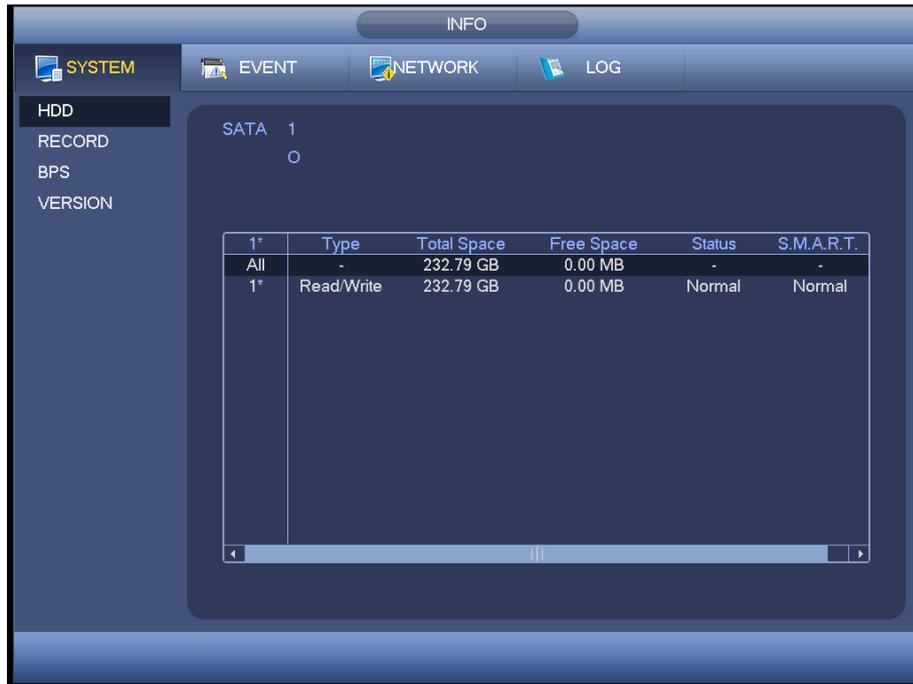

Figure 4-49
Here is to list hard disk type, total space, free space, video start time and status. See Figure 4-49.
- SMART: Display HDD information. See Figure 4-49.